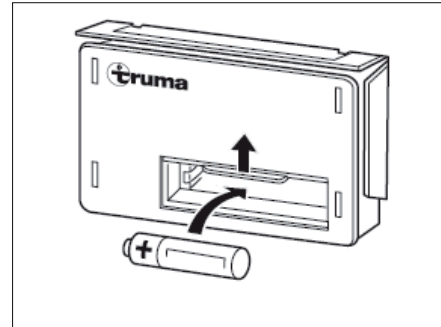

Fig. 110 Changing the batteries
- Slide the cover of the battery compartment at the automatic ignition (Bild 110) upwards.
- Insert a new battery of the same type into the battery compartment of the automatic ignition, observing the correct polarity (+/-) (Bild 110). Use only temperature-resistant (+70 °C) and leak-proof Mignon batteries.